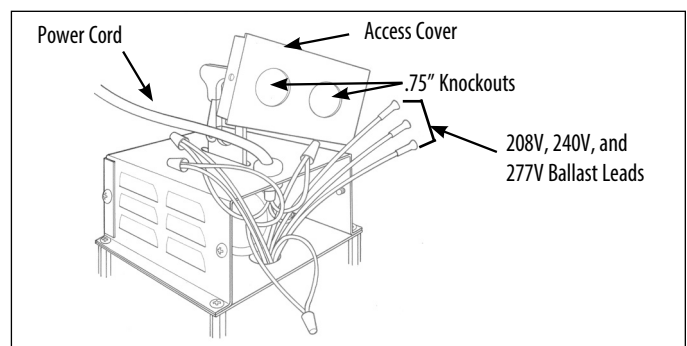

Figure 1. Reconfiguring the Power Supply.
1. Remove the two (2) screws that hold the Access Cover to the luminaire. Disconnect and remove the factory supplied power cord (see Figure 1). Cap the unused supply cord hole.